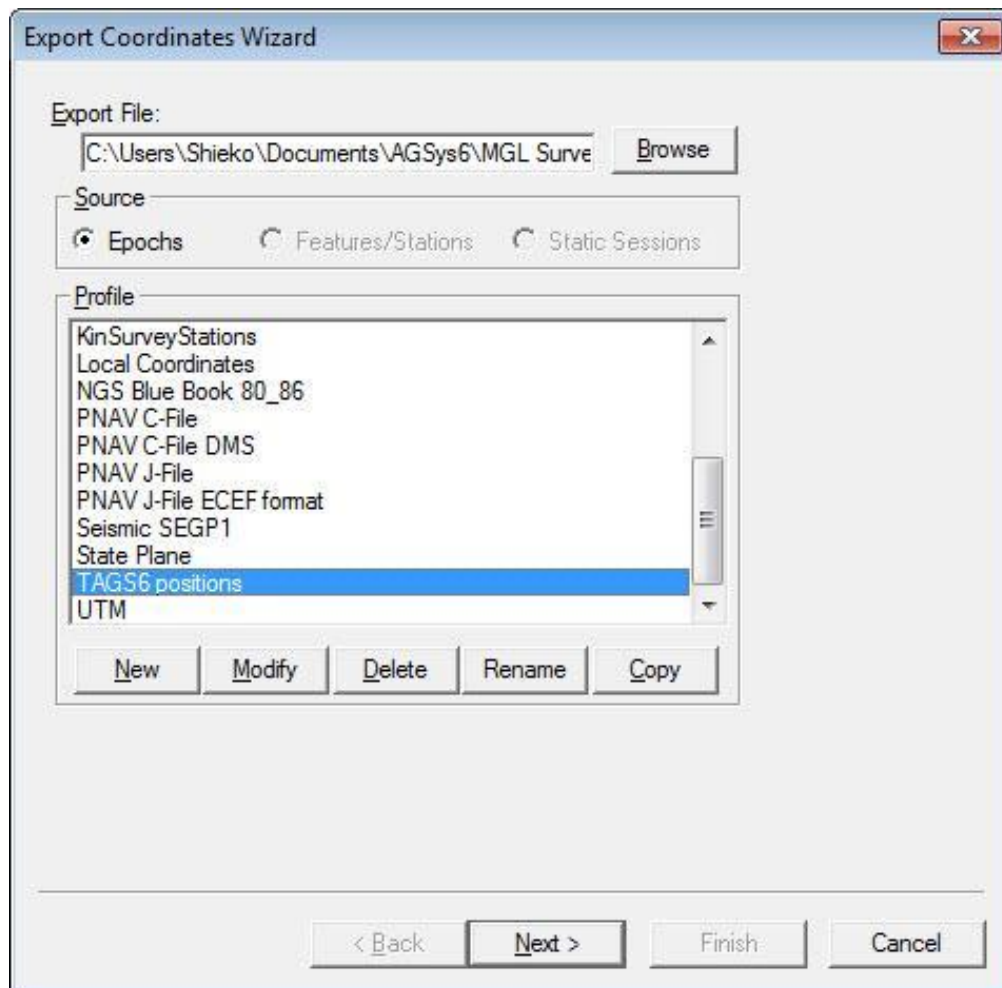

Figure 7-12 Export Coordinates Wizard Dialog
- In the **Export Coordinates Wizard** dialog (Figure 7-12) the **TAGS-6 position** must be selected in the **Profile** section. Click **Next**.